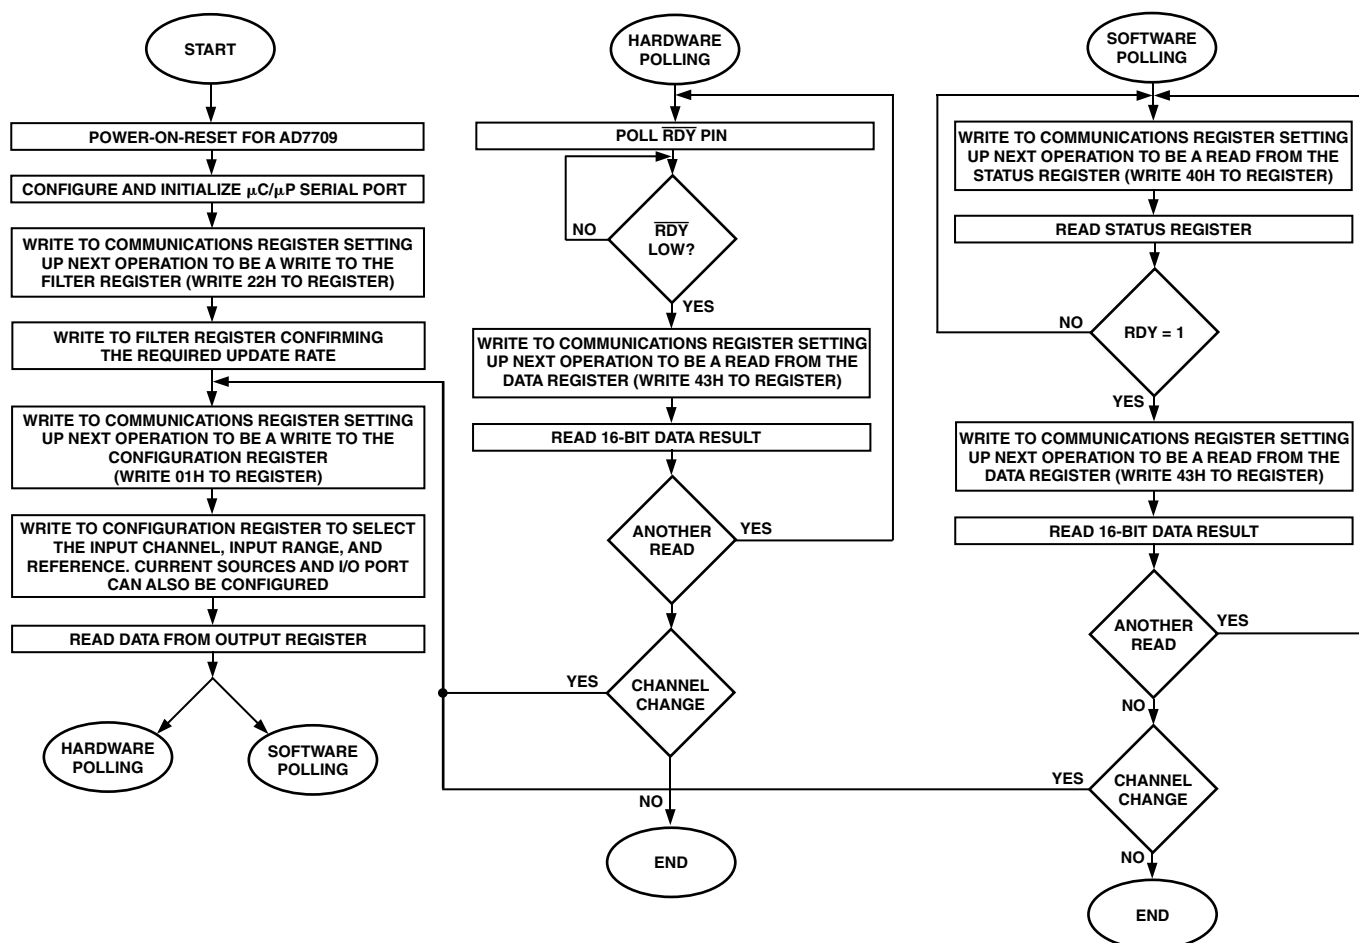
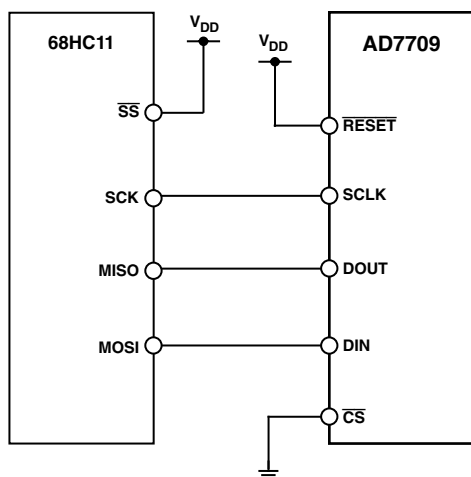

Figure 10. Flowchart for Initializing and Reading Data from the AD7709
Figure 11. AD7709-to-68HC11 Interface
Figure 10 outlines a flow diagram of the sequence used to configure all registers after a power-up or reset on the AD7709. The flowchart shows two methods of determining when it is valid to read the data register. The first method is hardware polling of the  $\overline{\text{RDY}}$  pin and the second method involves software interrogation of the RDY bit in the status register. The flowchart details all the necessary programming steps required to initialize the ADC and read data from the ADC channel following a power-on or reset. The steps can be broken down as follows:
3. When configuration is complete, the user needs to determine when it is valid to read the data from the data register. This is accomplished either by polling the  $\overline{\text{RDY}}$  pin (hardware polling) or by interrogating the RDY bit in the STATUS register (software polling). Both are shown in Figure 10.
The AD7709 flexible serial interface allows for easy interface to most microcomputers and microprocessors. The flowchart of Figure 10 outlines the sequence that should be followed when interfacing a microcontroller or microprocessor to the AD7709. Figures 11, 12, and 13 show some typical interface circuits. The serial interface on the AD7709 is capable of operating from just three wires and is compatible with SPI interface protocols. The 3-wire operation makes the part ideal for isolated systems where minimizing the number of interface lines minimizes the number of opto-isolators required in the system. The serial clock input is a Schmitt-triggered input to accommodate slow edges from opto-couplers. The rise and fall times of other digital inputs to the AD7709 should be no longer than 1  $\mu$ s.
Figure 11 shows an interface between the AD7709 and the 68HC11 microcontroller. The diagram shows the minimum (3-wire) interface with  $\overline{CS}$  on the AD7709 hardwired low. In this scheme, the RDY bit of the Status Register is monitored to determine when the Data Register is updated. An alternative scheme, which increases the number of interface lines to four, is to monitor the  $\overline{RDY}$  output line from the AD7709. The monitoring of the  $\overline{RDY}$  line can be done in two ways. First,  $\overline{RDY}$  can be connected to one of the 68HC11 port bits (such as PC0), which is configured as an input. This port bit is then polled to determine the status of  $\overline{RDY}$ . The second scheme is to use an interrupt driven system, in which case the  $\overline{RDY}$  output is connected to the IRQ input of the 68HC11. For interfaces that require control of the  $\overline{CS}$  input on the AD7709, one of the port bits of the 68HC11 (such as PC1), which is configured as an output, can be used to drive the  $\overline{CS}$  input.